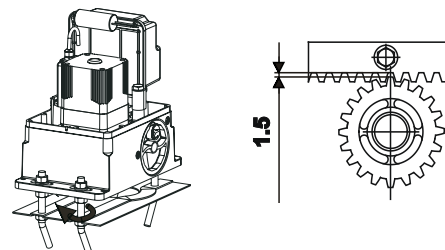

Fig.15
- When the rack has been installed, to ensure it meshes correctly with the pinion, it is advisable to lower the gearmotor position by about 1.5 mm (Fig.15).